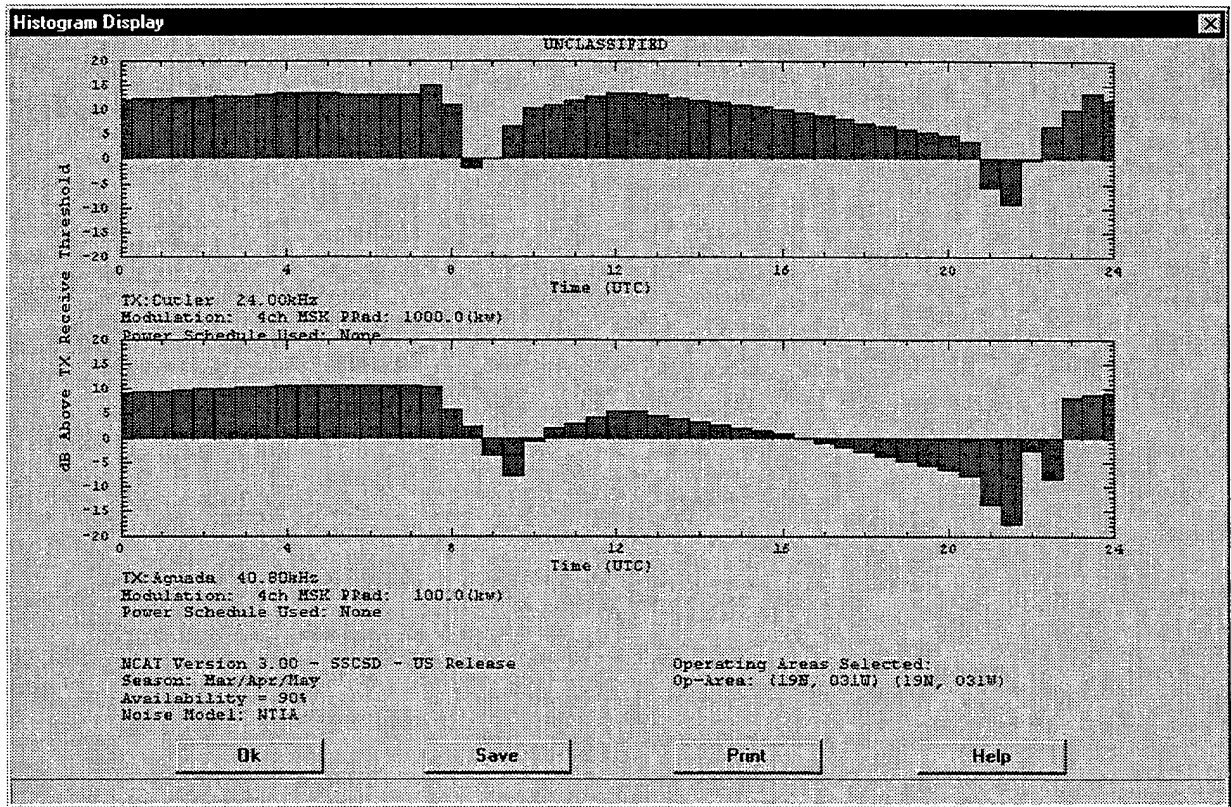

Figure 18. Example of an SNR histogram.
- A plot of the minimum SNR of the combined selected areas for each of the selected transmitter(s). To perform an SNR analysis, select Run Scenario -> Show SNR.... Figure 18 shows an example of the resulting hard copy.